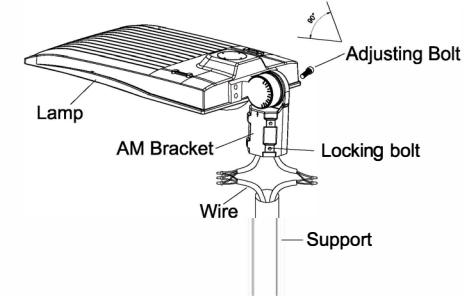
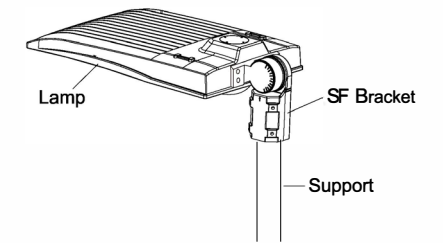

Figure 11
Figure 12
Step 1. Loosen the four bolts on SF bracket, connect the wires correctly, and pull the wires into the pole (Figure 11)
Step 2. Place the bracket into the pole and lock the four bolts (Figure 12) *Notice: Adjustable angle is 0-90° (Figure 11)*